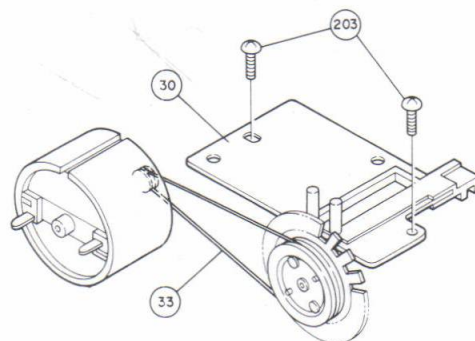

Fig. 4
1. Remove the Belt (33), remove the two Screws (203) securing the Sustainer Ass'y (30), then remove the Sustainer Ass'y. (Figure 4)